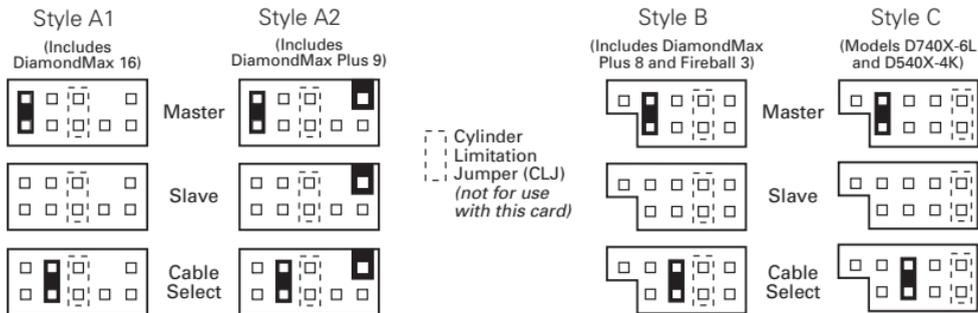

Figure 7
1. Configure the jumpers of the Ultra ATA hard drive to the cable select setting. If you are connecting two Ultra ATA drives, they should both be configured to the cable select (CS) setting. Consult the drive label, documentation, or manufacturer for jumper configuration information. Jumper settings for popular Maxtor models are shown below in Figure 7.